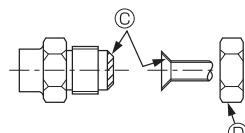

Fig. 4-3
Ⓐ (Fig. 4-3)
4.3. Connecting pipes (Fig. 4-2) (Fig. 4-3)
[Fig. 4-3]